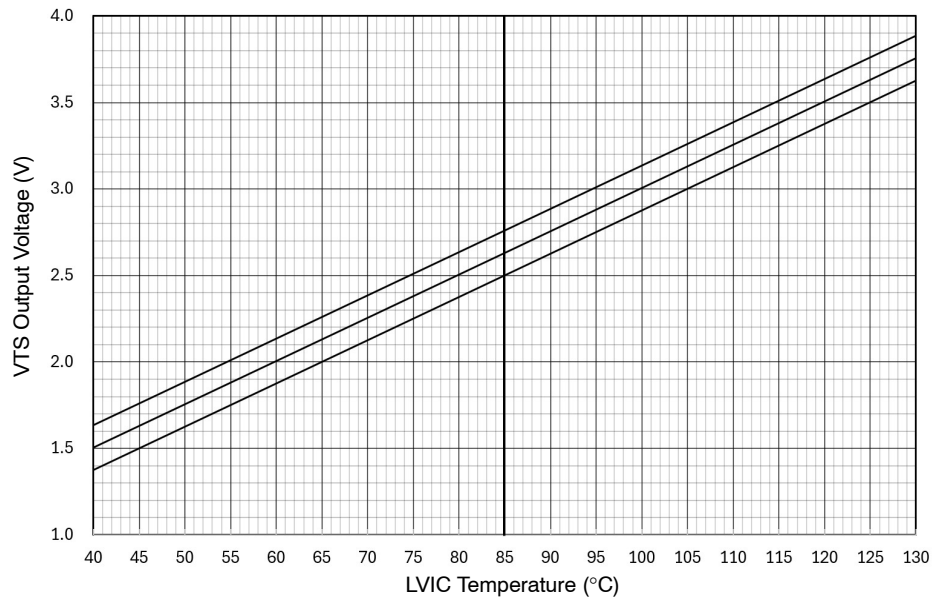
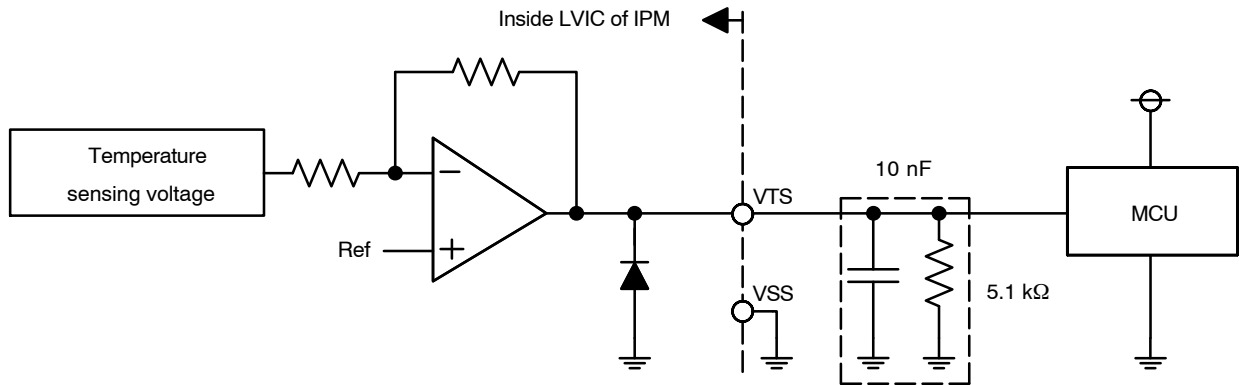

Figure 5. Temperature of LVIC versus VTS Characteristics
Figure 6. Internal Block Diagram and Interface Circuit of VTS
- TLVIC is the temperature of LVIC itself. VTS is only for sensing temperature of LVIC and cannot shutdown MOSFETs automatically. The relationship between VTS voltage output and LVIC temperature is described in Figure 5. It is recommended to add 5.1k Ω pull down resistor between VTS and VSS (Signal Ground) as described in Figure 6 for linear output characteristics at low temperature. To reduce noise, 10 nF cap is recommended as well. Refer to the application note for usage of VTS.
To avoid malfunction, the wiring of each input should be as short as possible (less than 2–3 cm). Each capacitor should be mounted as close to the pins of the product as possible. VFO output is open-drain type. This signal line should be pulled up to the positive side of the MCU or control power supply with a resistor that makes IFO up to 1 mA. Please refer to Figure 6.